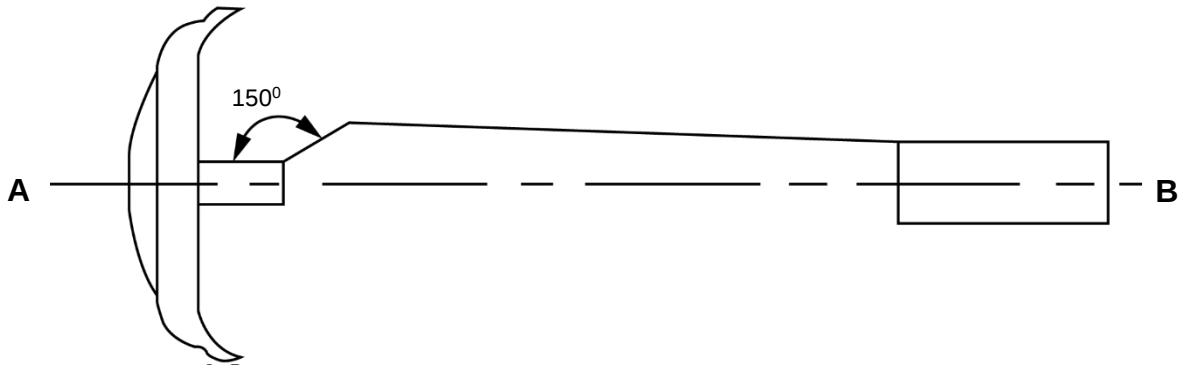

Fig. 3
- 3 Shown in Figure 3 below is an incomplete drawing of a shaving machine.